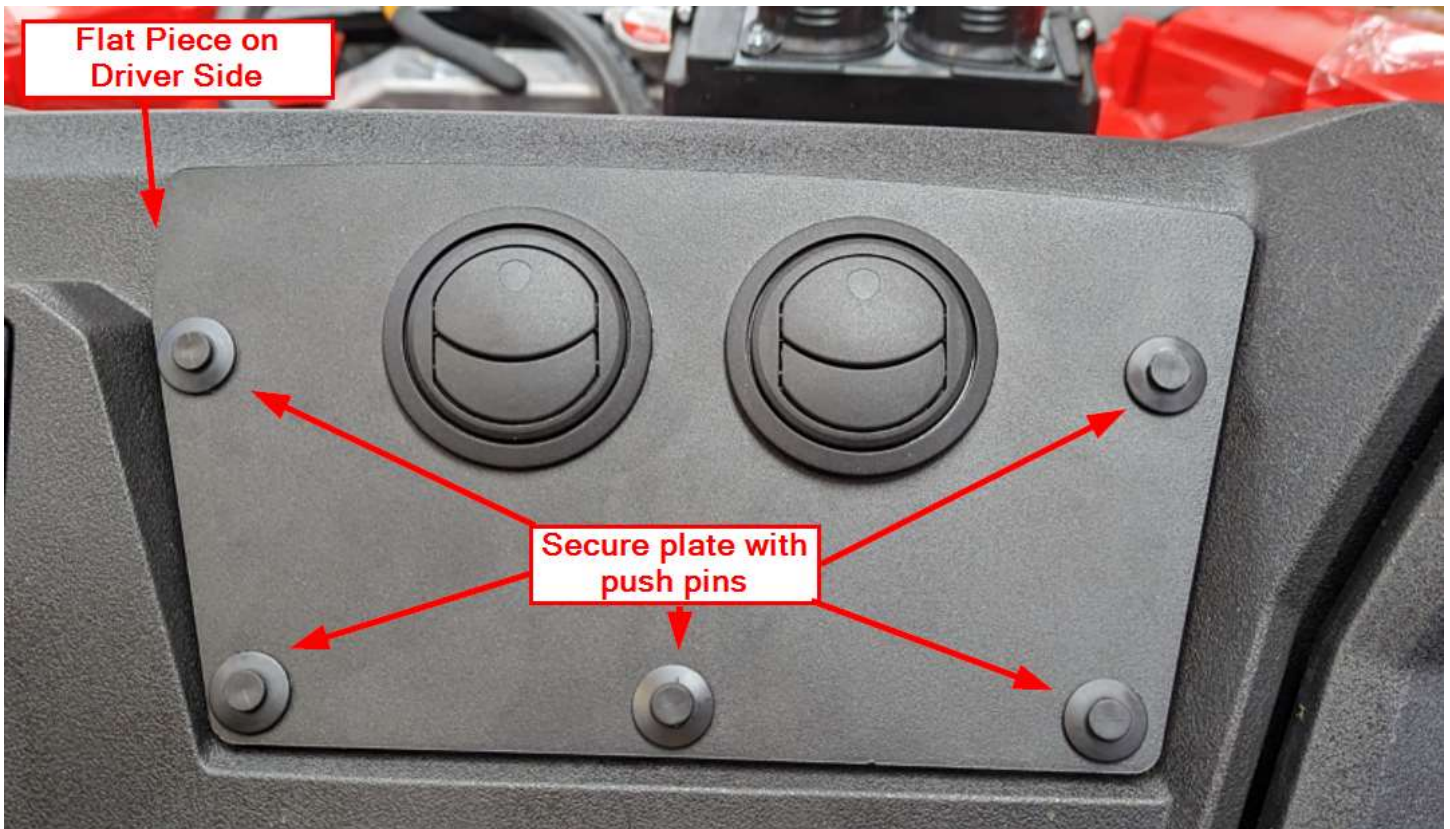

Figure 8
- e. Locate the Defrost Bracket and insert the remaining 2" Vents taking note of the bracket orientation: **The Defrost Bracket is directional as shown in Figure 8. Position the Flat edge on the Driver Side as shown in Figure 8.**